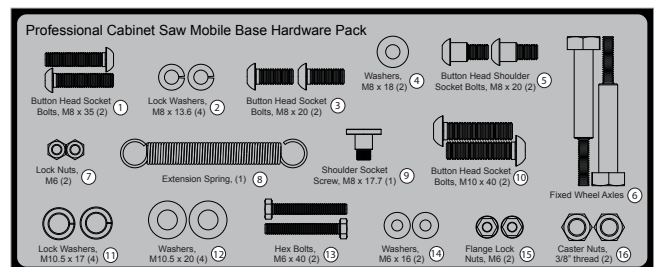

Fig. 23
- Locate all of the mobile base components shown on page 1. All of the hardware needed to install the mobile base is located on the hardware pack (see Fig. 23). In order to easily identify the hardware used in each of the following steps, the different pieces of hardware are numbered on the hardware pack and in the figures. If you are missing the hardware pack or any of the other mobile base components, call the SawStop Service Department at 503-582-9934 for replacements.